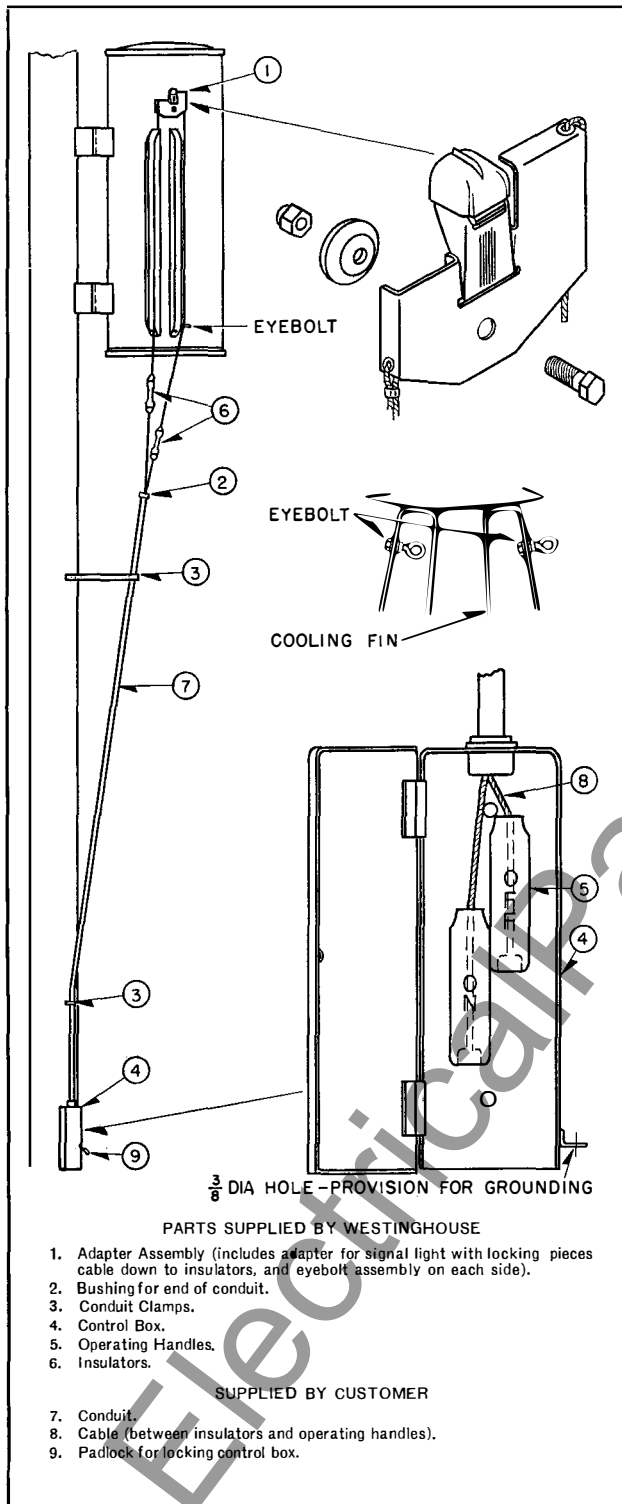
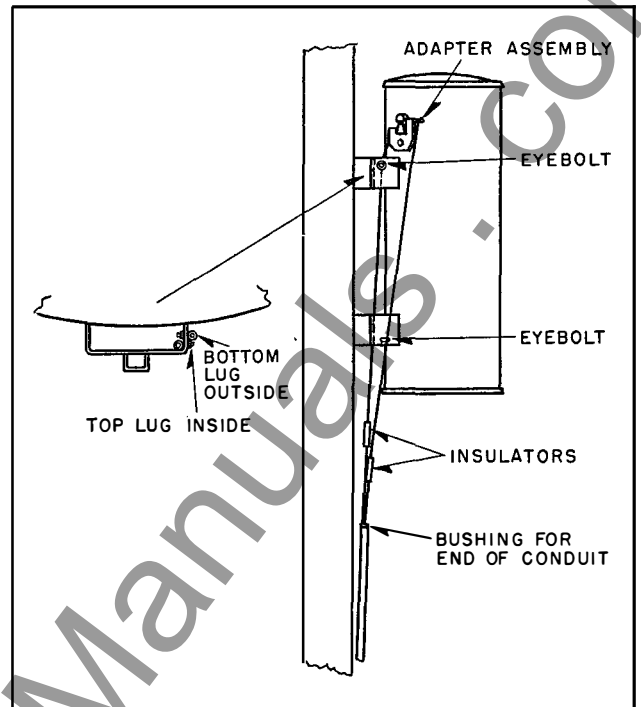

FIG. 28. Method of Mounting Control Device When Above Fins. Also Parts List.
FIG. 29. Method of Mounting Control Device When Above Hanger Lugs.
This device permits operation of the internal secondary breaker of type "CSP" and type "CP" transformers from ground level. Fig. 28 (Part Four) shows the service control device mounted on an installed transformer. Also see discussion of service control device beginning on page 34.
Fig. 28 shows the service control device with all of its component parts. The following is a description of the method of operation.
1. When fins are located below breaker handle, Fig. 28, drill $\frac{5}{16}$ inch diameter holes in fins near the bottom as indicated. If there are hanger lugs below the breaker handle, Fig. 29, holes should be drilled in hanger lugs, as shown.
4. Attach conduit to control box. Locate control box on pole in such position as to leave 6 inch minimum between lowest insulator and top of conduit. Install bushing in top end of conduit (2). Bend conduit so that cable from insulators will be in line with the conduit at points of entry. Clamp conduit to pole where indicated and secure box to pole with $\frac{1}{4}$ inch wood screws.